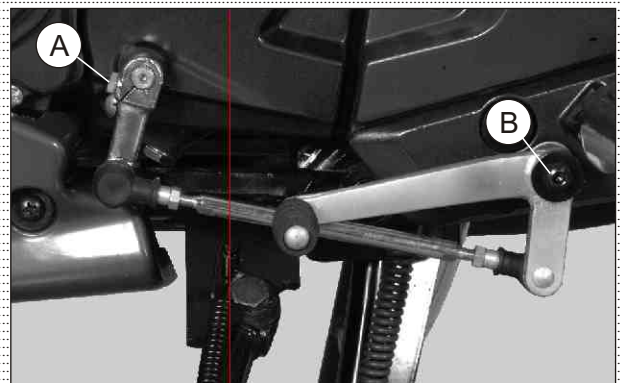

Fig. 3.33
- Remove hexagonal screw (A) (M6x20 - 1 no) from the arm gear shifter and remove SBHC screw (B) from the gear shifter lever mounting. (Fig. 3.33)